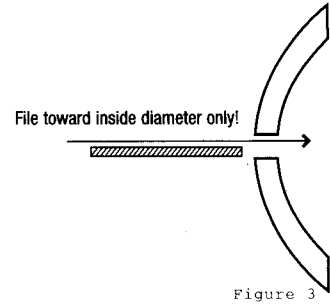

Figure 3
- If a ring grinder is not available, file from outside face toward inside diameter to avoid chipping the face coating (fig. 3)